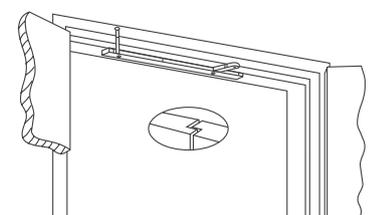

Figure 4. Double arm swing coordinator
- Grade 8: 500 000 test cycles: for door coordinator devices incorporated in, or for use in conjunction with, automatic swing door operators, and for devices incorporated in a door closer. Figures 4 & 5.